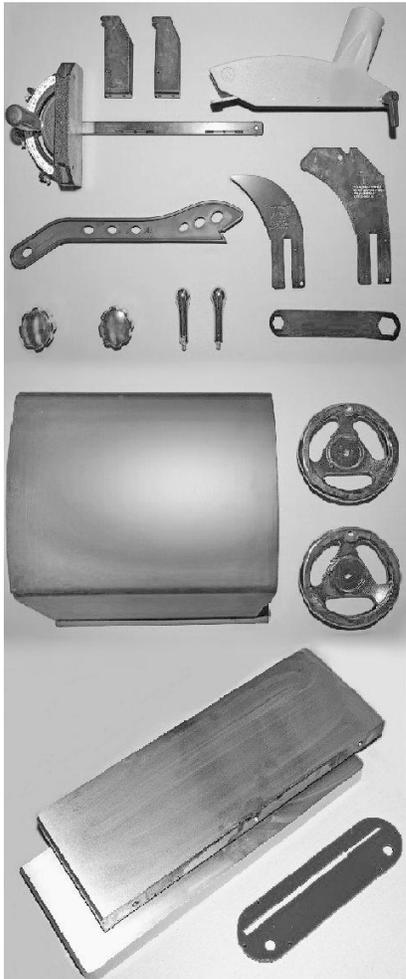

Figure 1
4.1.1 Carton contents (Figure 1)
- 1 **Guard assembly (A)**
- 1 **Miter gauge (B)**
- 1 **Riving knife (C)**
- 1 Arbor wrench (D)
- 2 Storage hooks (E)
- 1 **Push stick (F)**
- 2 Knobs (G)
- 2 Handles (H)
- 2 Handwheels (I)